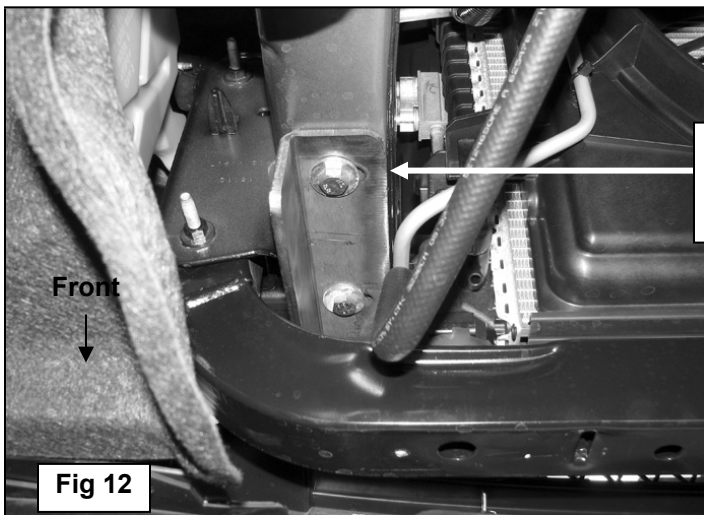

Fig 12
Bracket to the frame channel with (2) 10mm x 30mm Hex Bolts, (2) 10mm Large Flat Washers and (2) 10mm Lock Washers, **(Figure 12)**. Snug but do not fully tighten the hardware at this time. Repeat this step for passenger side Frame Bracket installation.